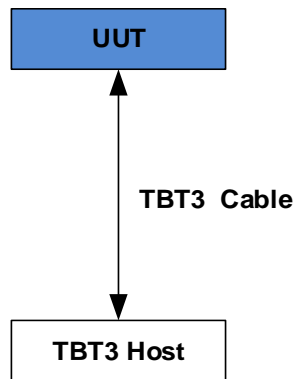

Figure 3-7: USB4 Host to TBT3 Host Communications
1. Connect the USB4 Host to a Thunderbolt 3 Host as shown in Figure 3-7.